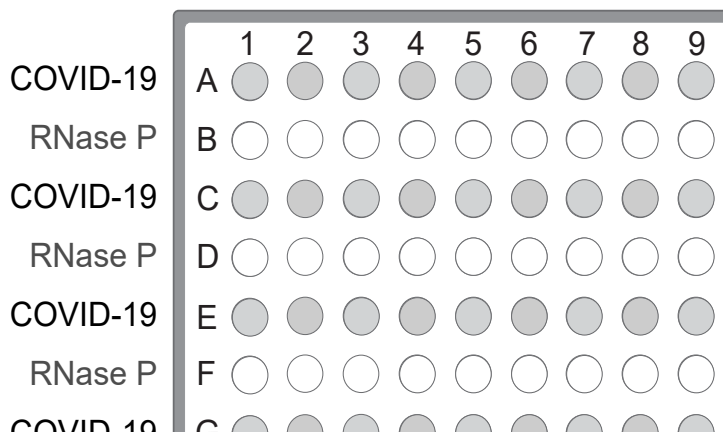

Figure 1 Assays in alternating plate rows
- a. Starting with row A, pipette 15.0  $\mu$ L per well of the COVID-19 Reaction Mix into every other row of a MicroAmp™ Fast Optical 96-Well Reaction Plate with Barcode, 0.1 mL or a MicroAmp™ Optical 96-Well Reaction Plate with Barcode, 0.2 mL. See Figure 1 on page 52. Plates without a barcode can be used (see “Required materials not supplied” on page 11).